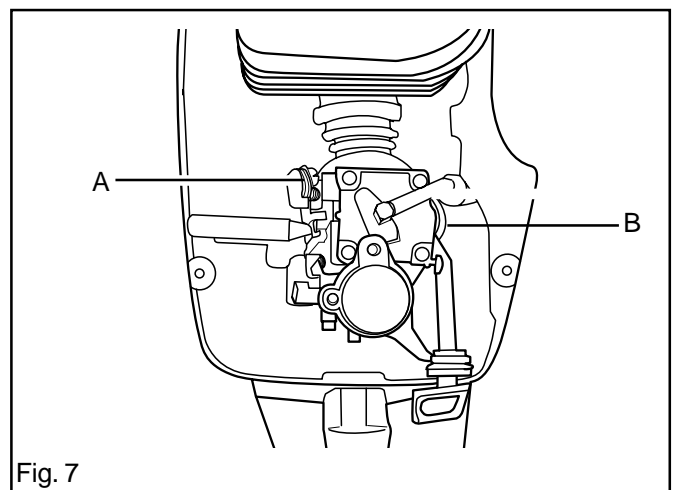

Fig. 7
10. Fit the fuel pipe (B) on the carburettor. See fig. 7.
11. Insert the throttle cable casing in the attachment and hook on the throttle cable (A) on the carburettor.
See fig. 7.